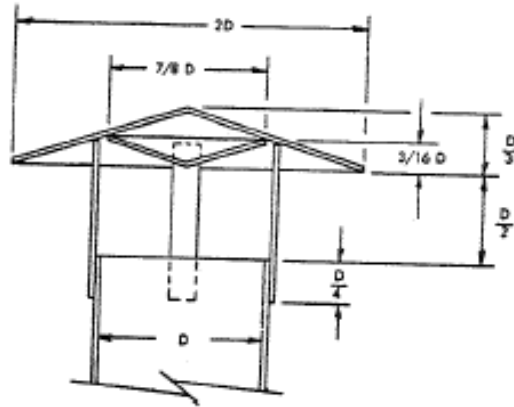

Figure 5, Stack Rain Cone
7.9 The stack should be protected against down drafts, back drafts, and rain with a simple flat or cone-shaped cap. (See Figure 5) Make sure the area between the cap and stack is at least equal to the area of the stack. Protect all steel work from corrosion.